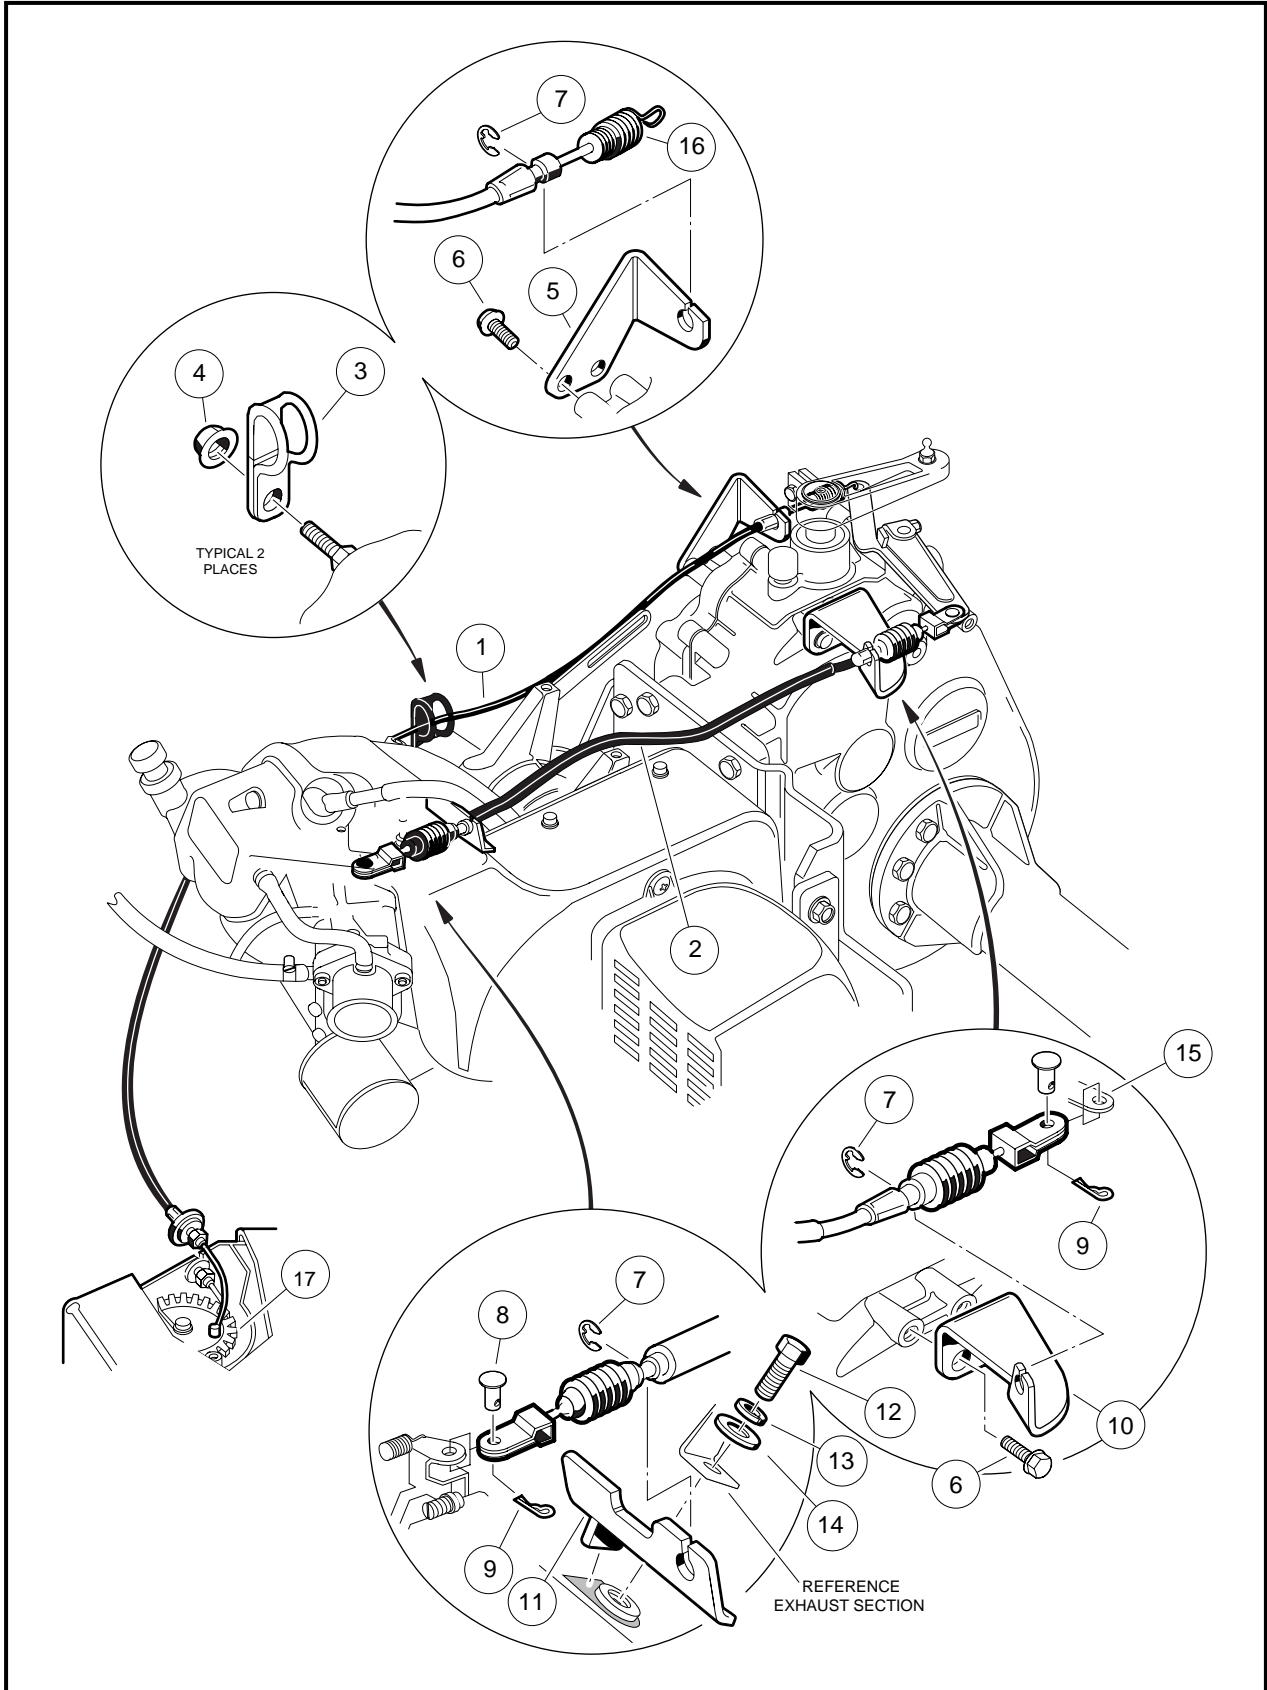

Figure 14-11 Governor and Accelerator Cables
3. Remove the E-ring (7) at the governor cable engine bracket (11), and governor cable support bracket (10) (**Figure 14-11, Page 14-12**).
4. Remove the cotter pin (9) and clevis pin (8) from the governor lever arm (15) (**Figure 14-11, Page 14-12**).
5. Remove the cable (2) (**Figure 14-11, Page 14-12**).
1. Install the cable onto the governor cable support bracket (10) and the engine bracket (11) and attach an E-ring (7) at each end (**Figure 14-11, Page 14-12**).
3. Install governor cable end into carburetor throttle clevis and install clevis pin (8) and cotter pin (9) (**Figure 14-11, Page 14-12**).
4. Install governor cable clevis over governor lever arm and install clevis pin (8) and cotter pin (9) (**Figure 14-11, Page 14-12**).
3. Disconnect cable (1) from cam (17) in the electrical box (**Figure 14-11, Page 14-12**).
4. Remove the E-ring (7) on the spring end of the cable at the accelerator cable bracket (5) (**Figure 14-11, Page 14-12**). Pull the cable housing out of the bracket.
5. Disconnect the spring (16) from the engine governor arm by rotating the arm counterclockwise one-half turn. Remove the cable assembly from the vehicle (**Figure 14-11, Page 14-12**).
1. Connect the cable to the cam (17) in the electrical box (**Figure 14-11, Page 14-12**).
3. Connect the spring (16) to the engine governor arm (**Figure 14-11, Page 14-12**).
4. Install cable in accelerator cable bracket (5) and secure it with E-ring (7) (**Figure 14-11, Page 14-12**).
5. Push the cable dust shield onto the spring end of the cable conduit (**Figure 14-11, Page 14-12**).